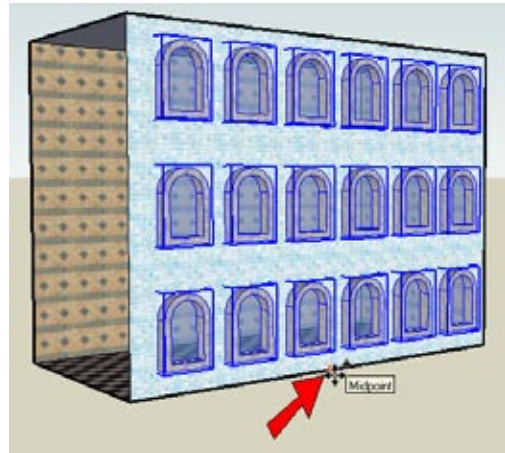

Figure 1-14
14. Now you can copy all of these windows to the back of the building. Select them all, activate Move with Ctrl/Option, and for the first move point, click the midpoint shown in Figure 1-14. This midpoint is used so that the position of the windows relative to the front wall will be the same for the windows copied to the back wall.